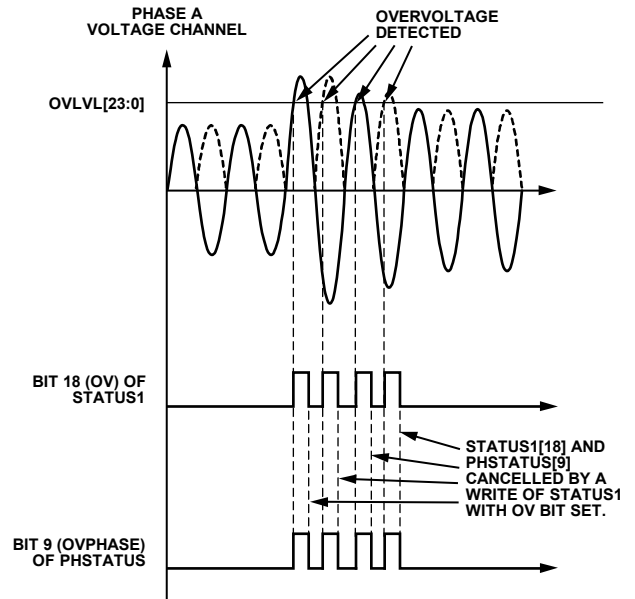

Figure 66. Overvoltage Detection
Figure 66 shows overvoltage detection in the Phase A voltage. When the absolute instantaneous value of the voltage goes above the threshold set in the OVLVL register, Bit 18 (OV) in the STATUS1 register and Bit 9 (OVPHASE[0]) in the PHSTATUS register are set to 1. Bit 18 (OV) of the STATUS1 register and Bit 9 (OVPHASE[0]) in the PHSTATUS register are cleared when a 1 is written to Bit 18 (OV) in the STATUS1 register.